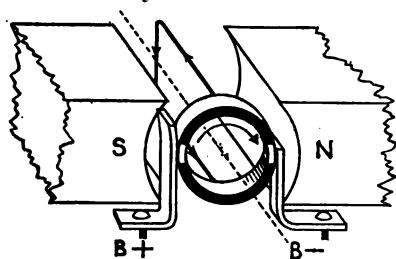

FIG. 277.—Split-ring commutator.
**commutator.** To understand how this works, let us study a very simple case. If the ends of the loop in section 319 are connected to a **split ring**, as shown in figure 277, we may set the brushes  $B+$  and  $B-$  on opposite